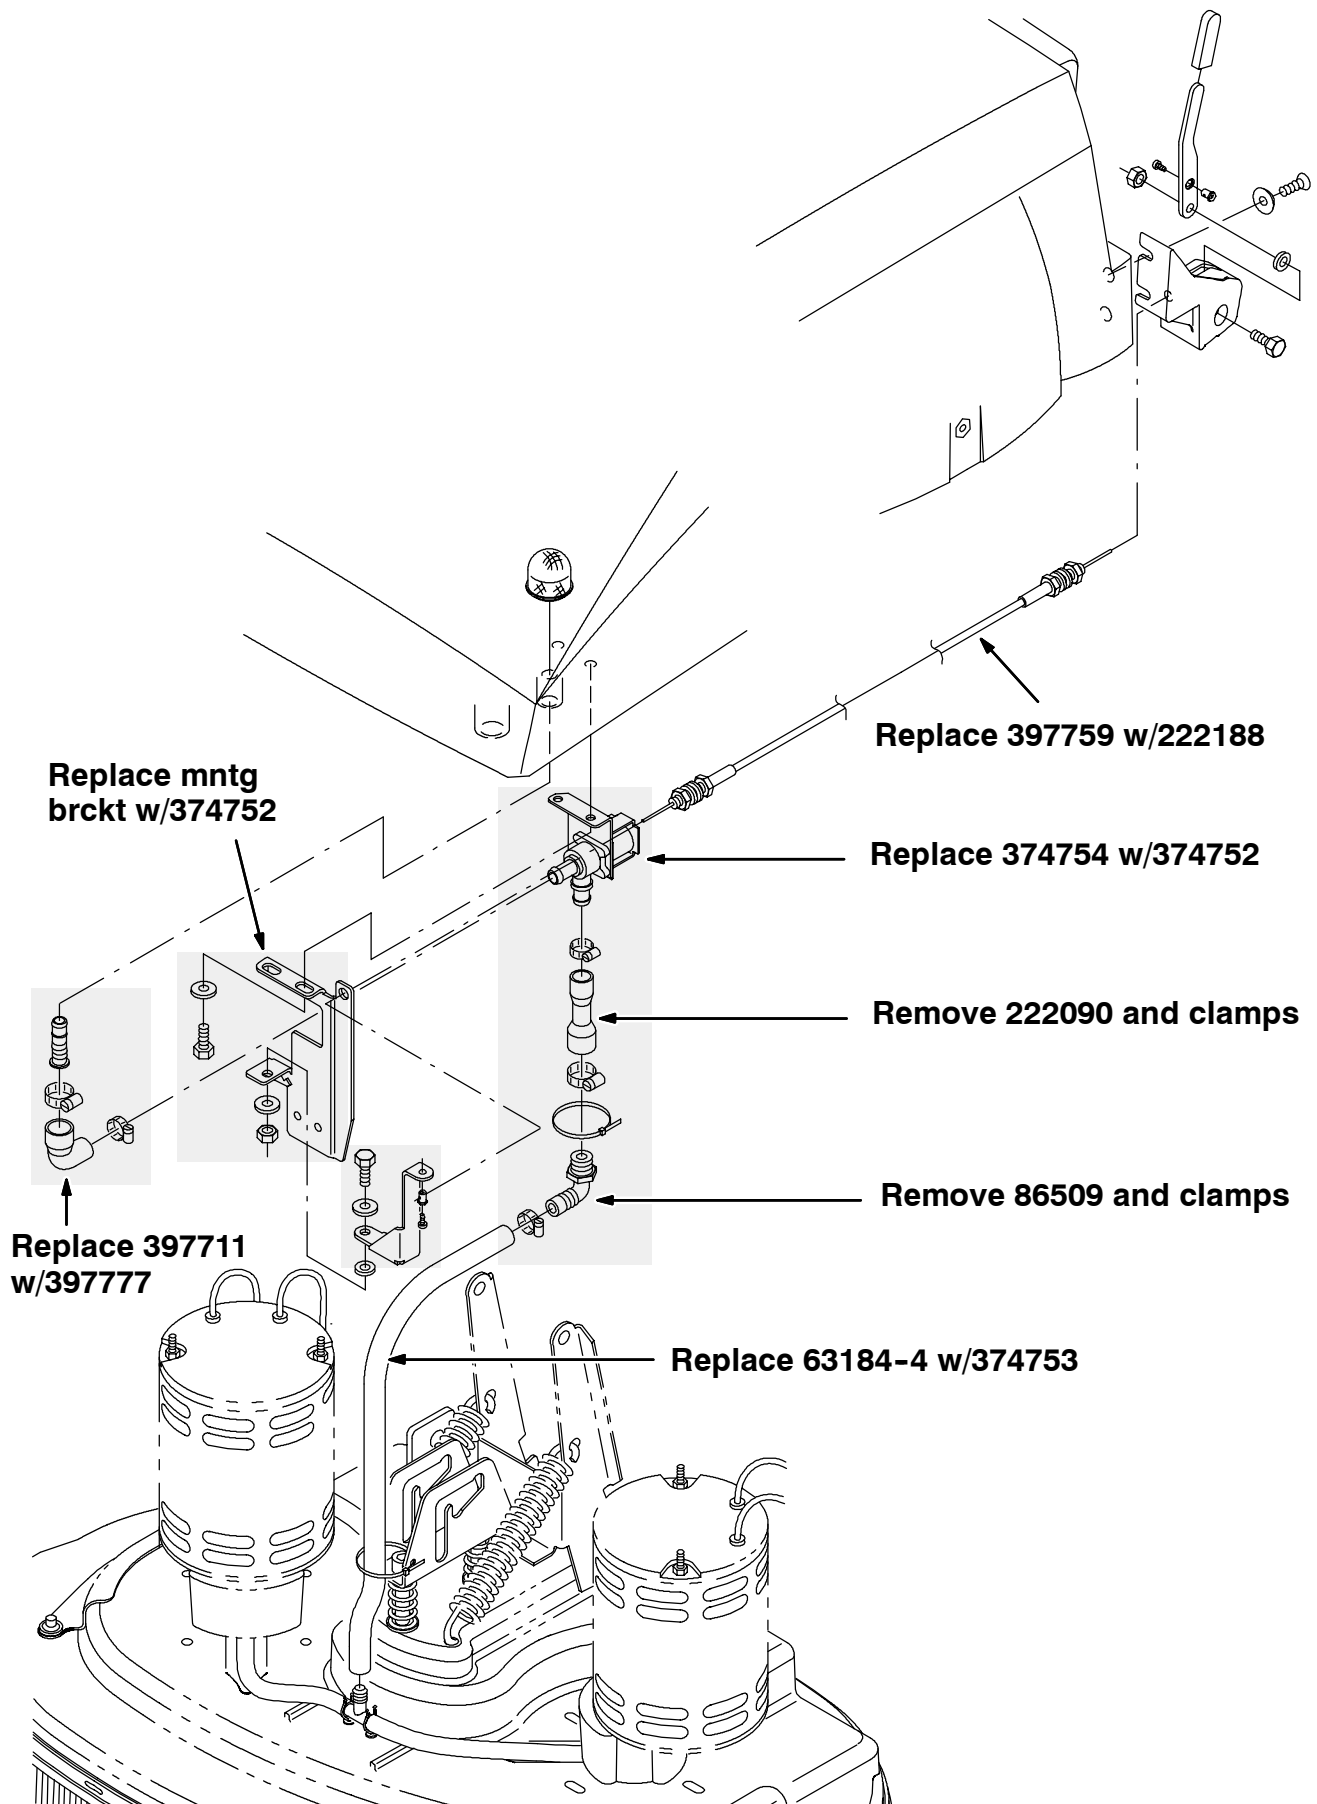

FIG. 1-Old Solution Control Group, 5680
(Refer to FIG. 1, 2 and 3)
1. Remove the front PVC hose from the solenoid valve and T-fitting mounted to the top of the scrub head. (Refer to FIG. 1)
5. Remove and discard solenoid valve 374754, straight hose 222090 and 90° plastic elbow 86509. (Refer to FIG. 1)
6. Remove the valve mounting bracket and lever from the machine. Set the mounting hardware aside. (Refer to FIG. 1)